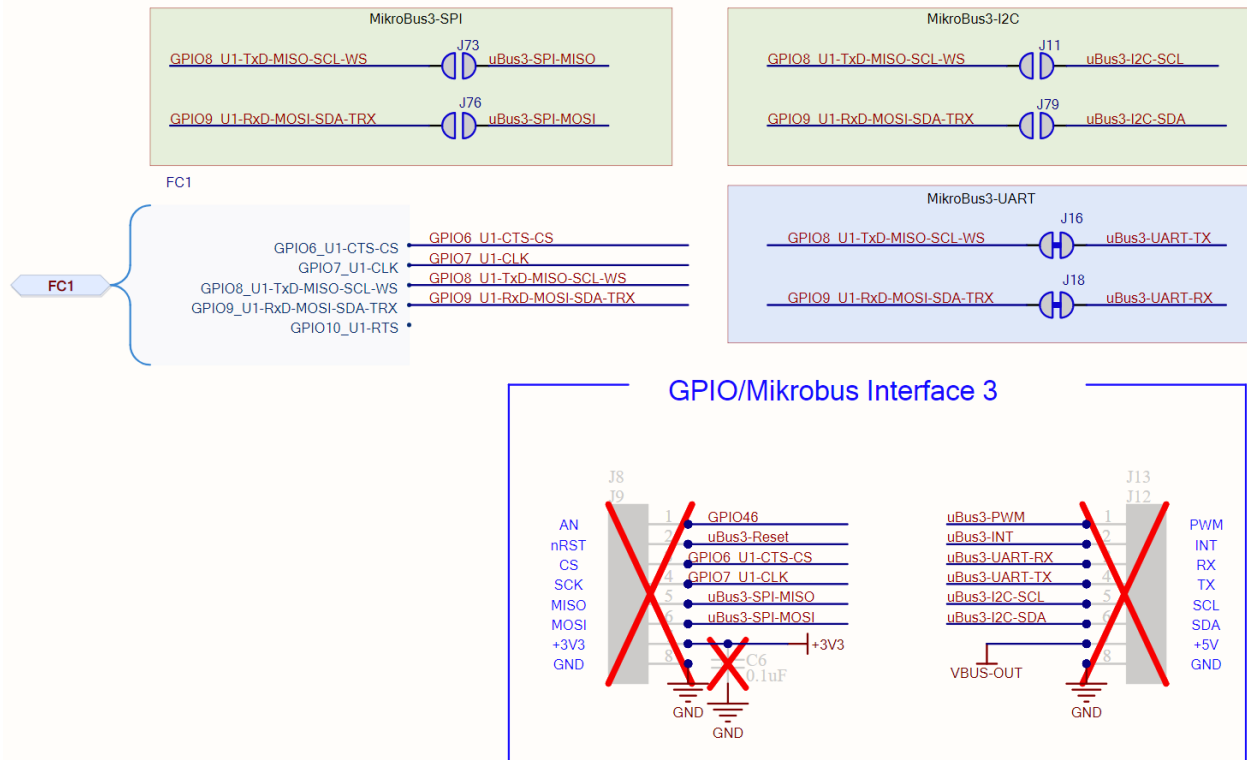

Figure 26: mikroBUS 3 slot signals and jumper configuration
- To enable I2C or SPI, adjust the state of jumpers J73 and J76 for SPI, or J11 and J79 for I2C, as shown in Figure 26. Also, toggle jumpers J16 and J18 to disable UART.
Figure 26 shows the connection of mikroBUS 3 to the Flexcomm 1 interface.